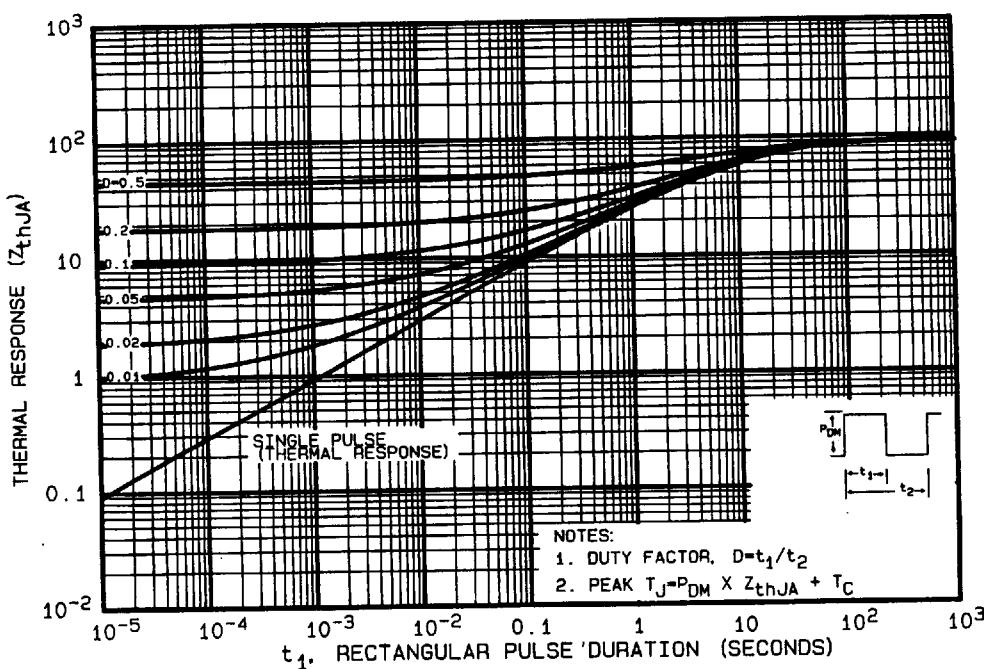

Fig. 9 — Maximum Effective Transient Thermal Impedance, Junction-to-Ambient Vs. Pulse Duration
① Repetitive Rating; Pulse width limited by maximum junction temperature (see figure 9)